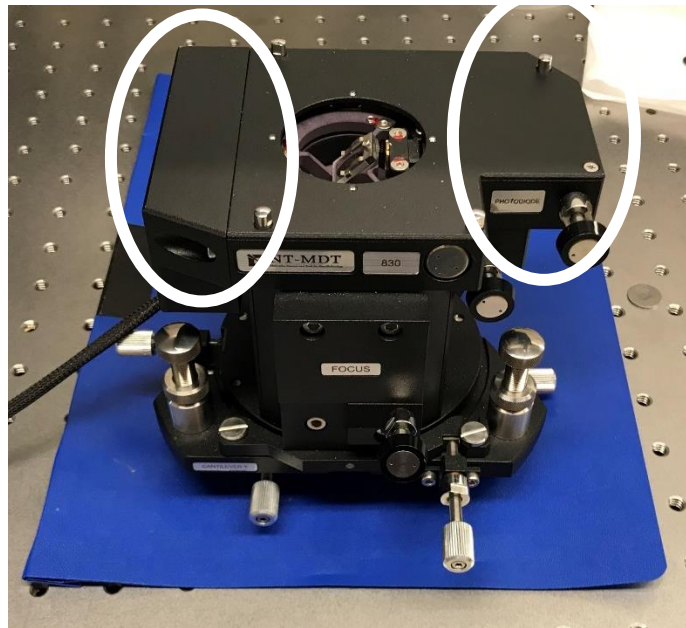

Figure 4: Optical head sides circled in white
- Grab the optical head by the upper sides (Figure 4)